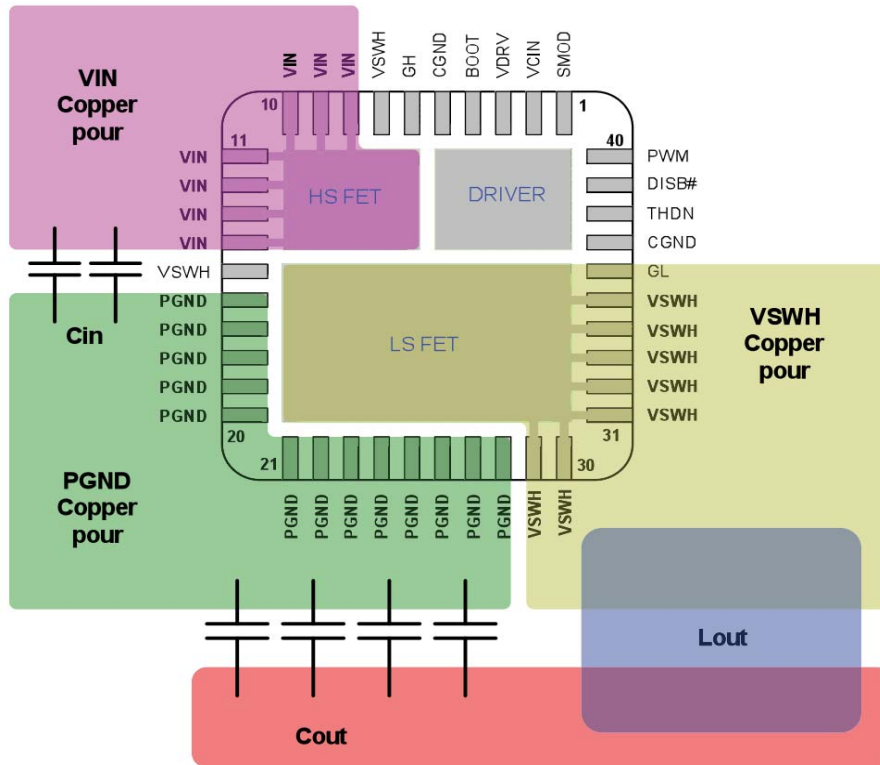

FIGURE 3. PCB LAYOUT FOR MINIMIZING CURRENT LOOPS
- Place multiple 10 $\mu$ F or greater ceramic capacitors directly at device between  $V_{IN}$  and PGND as indicated in Figure 3. This is the most critical decoupling and reduced parasitic inductance in the power switching loop. This will reduce overall electrical stress on the device as well as reduce coupling to other circuits. Best practice is to place the decoupling capacitors on the same PCB side as the device.
- Place PVCC,  $V_{CC}$  and BOOT-PHASE decoupling capacitors at the IC pins as shown in Figure 3.